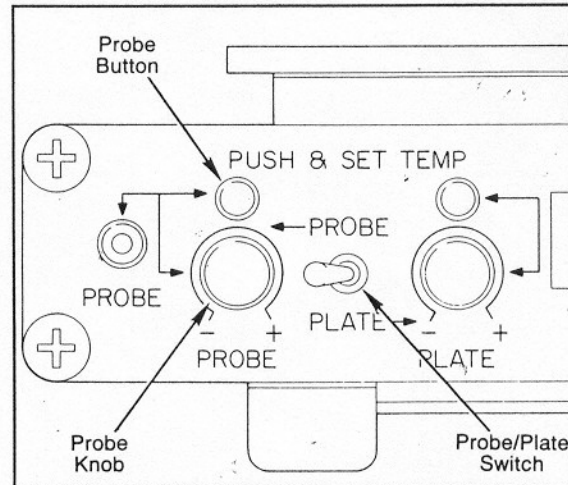

FIGURE 9. PROBE SWITCH POSITION
12. Set Probe/Plate Switch to Probe position, refer to Figure 9.
13. Depress Probe Button. Rotate Probe Knob clockwise or counterclockwise to reach the desired temperature setting. Release Probe Button. (**NOTE:** Observe the L.E.D. Temperature Display for preferred setting), refer to Figure 9.